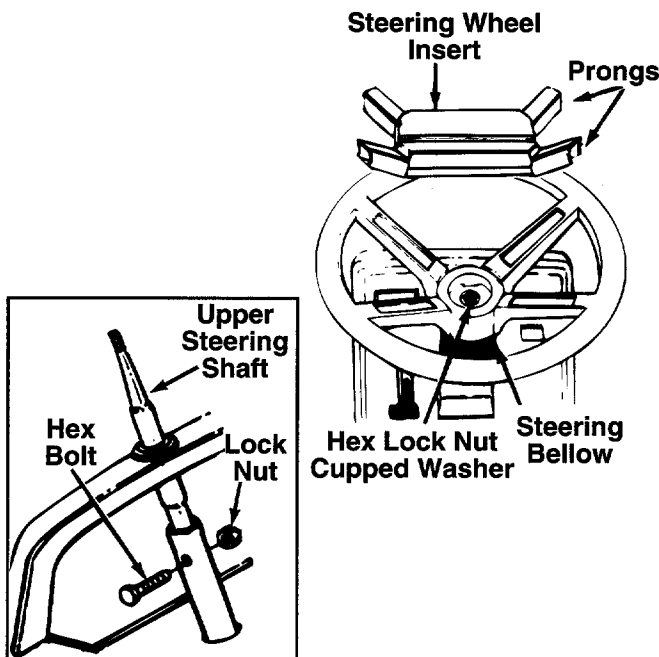

FIGURE 1.
1. Raise the hood on the lawn tractor and remove the hex bolt and lock nut from the lower steering shaft. Insert end (with hole) of upper shaft through the hole in dash panel, and into the lower steering shaft. Align the holes in the upper and lower steering shafts, and secure with hex bolt and lock nut just removed. See figure 1, inset.
5. Place the washer with the cupped side down over the steering shaft. Secure with hex lock nut. See figure 1.